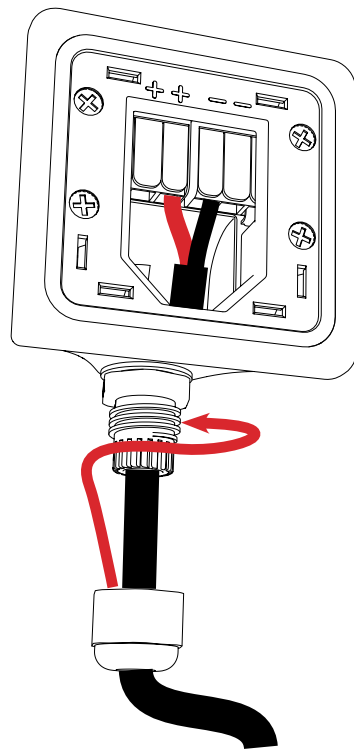

Figure 5. Wire the ClickPlug
3. Wire ClickPlug as shown (Figure 5) and in the EX-S Install Guide leaving enough for the likely mounting angle and a drip loop for damp/wet applications.